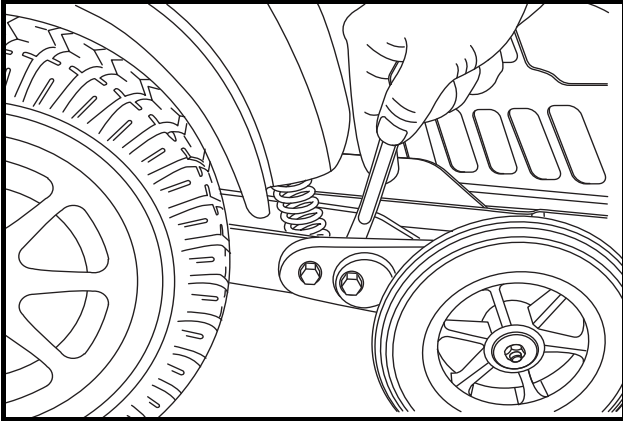

Figure 16. Anti-tip Bracket (Inner Locknut)
1. Place a wrench on the inner locknut of the anti-tip bracket located right in front of the shock strut. See **figure 16**.